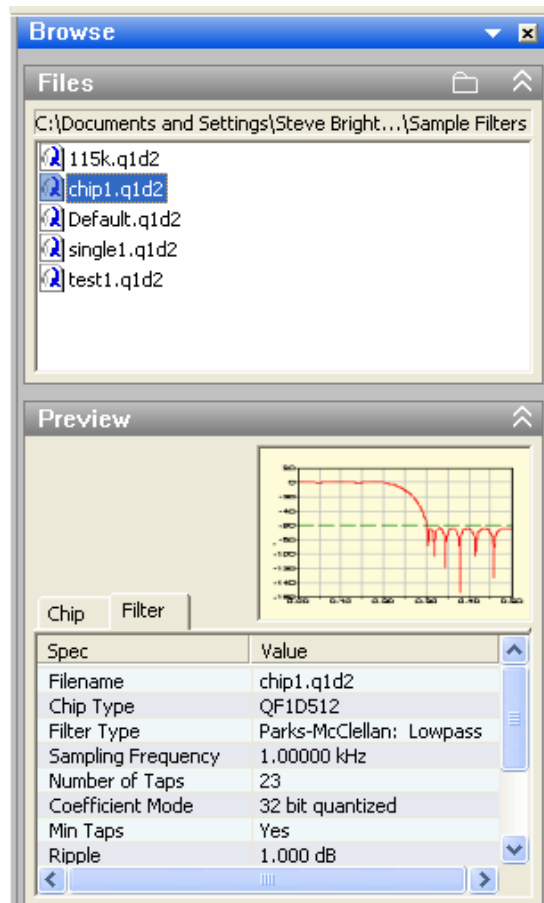

Figure 18
- Drag a configuration from the Browse Panel (Figure 18) and drop it anywhere in the Chip Configuration Panel (Figure 2).